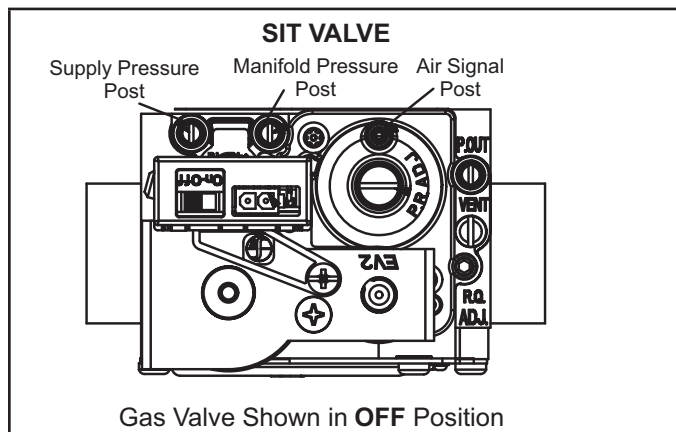

FIGURE 3
Operating the Gas Valve (Figure 3)
- 6 - Move switch on gas valve to OFF. See figure 3.
- 8 - Move switch on gas valve to ON. See figure 3.